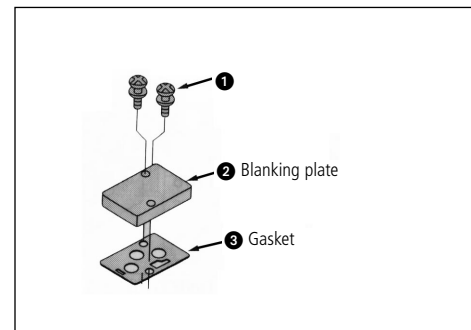

Fig 11
Fitting blanking plate (Fig 11)
- Fit blanking plate gasket ③ (Fig 11).
- Fit blanking plate ② (Fig 11).
- Fit blanking plate holding down screws ① (Fig 11).